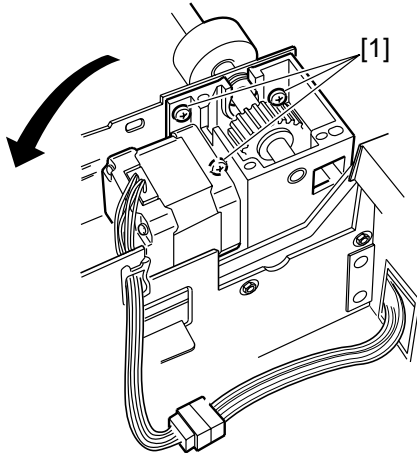

Figure 3-506
- 1) Install the paper feed motor on the motor side board, pushing down the front of the paper feed motor in the direction shown in Figure 3-506, and tighten 3 screws [1].